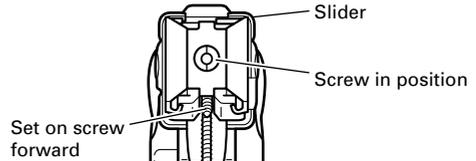
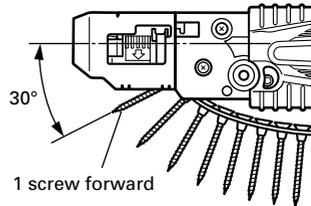

Fig. 4
Fig. 5
- (1) Insert the tip of the linked screw strip into the belt guide groove (A section).
- (2) Insert the tip of the tape into the slider groove (B section) and press inwards in the arrow direction.
- (3) Set so the screw on the strip is just prior (1 screw width) to the screw-in position (Fig. 4, Fig. 5).